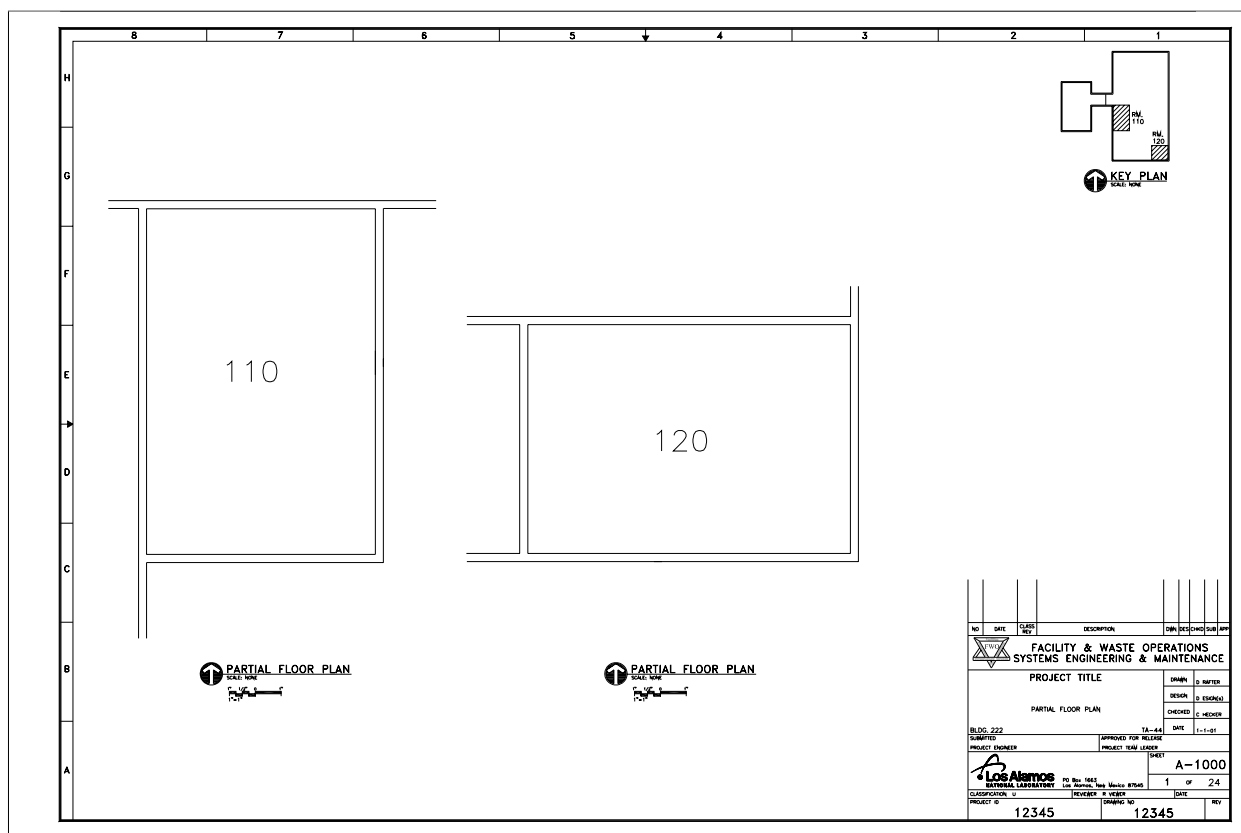

Figure 206-1
- D. Use a key plan (see Figure 206-1).
- B. In the illustration above, 3/32" text (the minimum allowable) is shown for the distance designations for all graphic scales because of the limited space available. The drawing scale designation text is shown at 1/8". These text heights were selected for graphic clarity. Graphic scales are to be centered and 1/4" below the drawing title, see Figure 206-1 and 206-2 for examples.